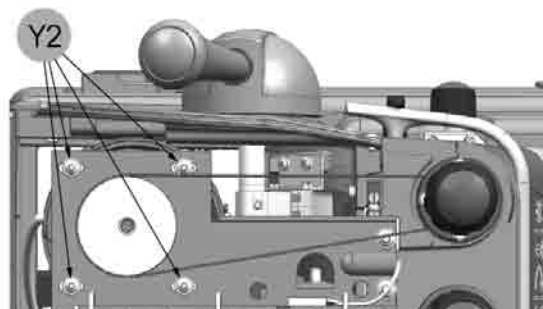

Fig. 56
- 2) Loosen the 6 screws (Y1) and remove the top safety guard (Y).
- 3) Loosen (without removing) the 4 allen screws (Y2) securing the motor (Fig. 56).